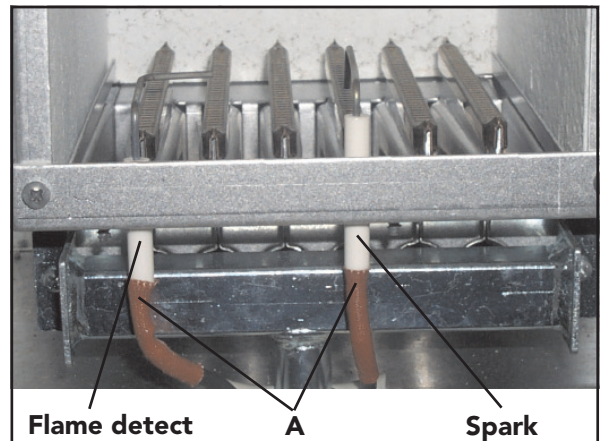

Fig. 28
**Spark or flame detect electrode (fig. 28)**
- Identify electrode from fig. 28